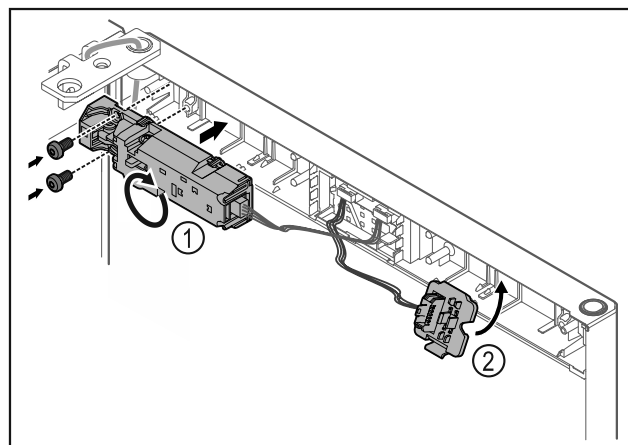

Fig. 13
- ▶ Turn the remote lock Fig. 13 (1) by 180° and fasten it on the opposite side.
- ▶ Engage the plug holder Fig. 13 (2) on the opposite side.*